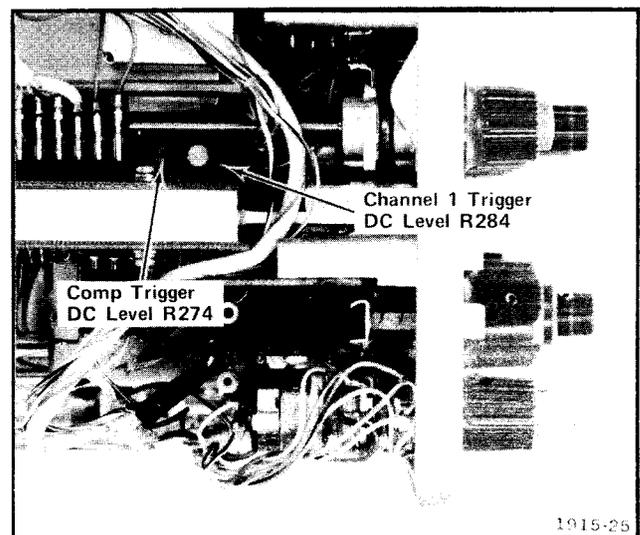

Fig. 5-8. Location of trigger DC level adjustments.
c. ADJUST—Comp Trigger DC Level adjustment R274 (see Fig. 5-8) for a stable display.
f. ADJUST—CH 1 Trigger DC Level adjustment R284 (see Fig. 5-8) for a stable display.